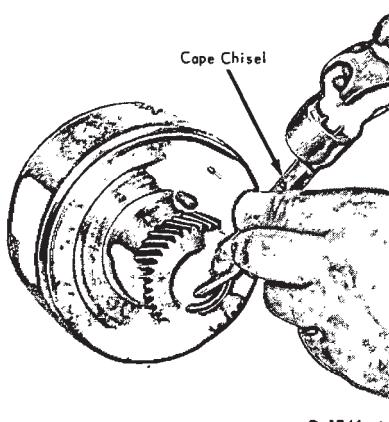

FIG. 32—Removing Rear Clutch Sun Gear Bushing
6. Remove the rear clutch sun gear bushing if it is worn or damaged. Use the cape chisel (Fig. 32) and cut along the bushing seam until the chisel